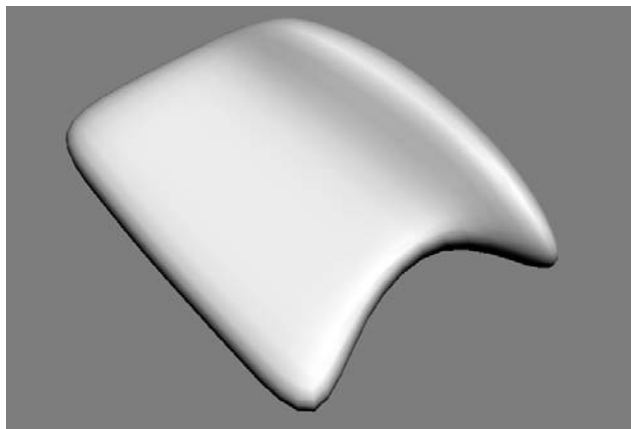

Figure 5.67
10. Enable NURMS smoothing for the fin as you did for the Rocket body mesh itself, and check your work against the fin shown in Figure 5.67. Remember to disable smoothing when you're done.